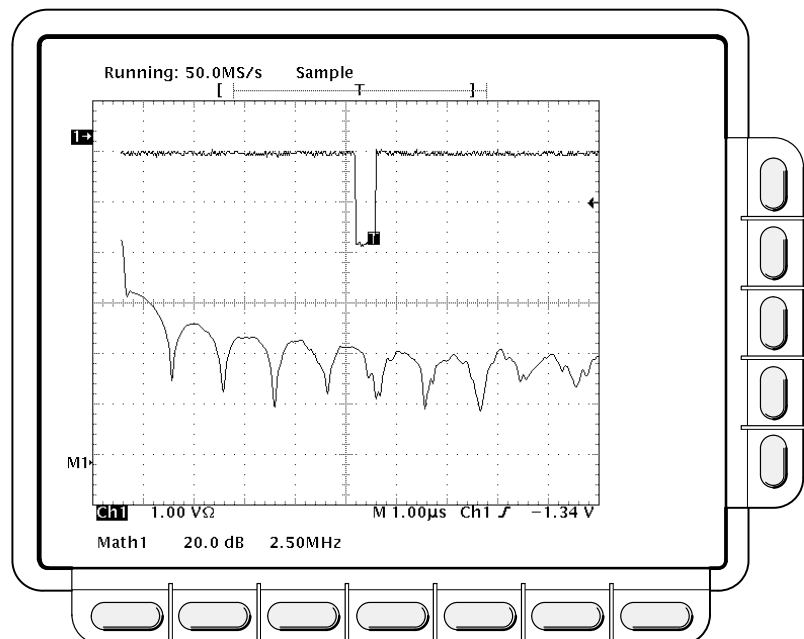

Figure 3-22: FFT Math Waveform in Math1
12. Press **OK Create Math Wfm** (side) to display the FFT of the waveform you input in step 1 (see Figure 3-22).